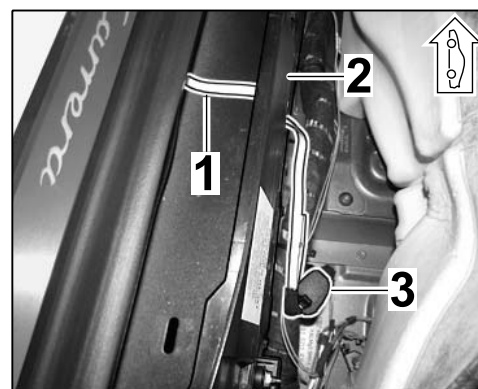

Figure 17
- 3.4.1 Route flat conductor path ⇒ *Figure 17 -1-* behind the door sill support ⇒ *Figure 17 -2-* (shown on the 911).
- 3.4.2 Connect plug connection ⇒ *Figure 17 -3-*.